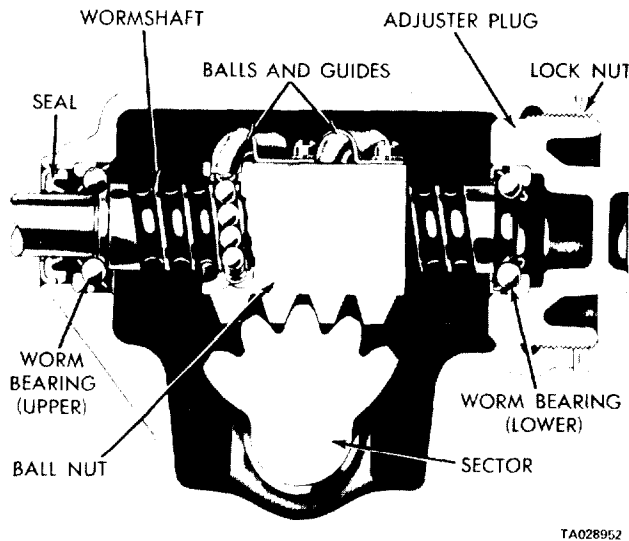

Figure 7-13. Steering Gear.
a. Worm Bearing Preload. Preload is determined by the pressure exerted against the wormshaft by the adjuster plug. See figure 7-13.